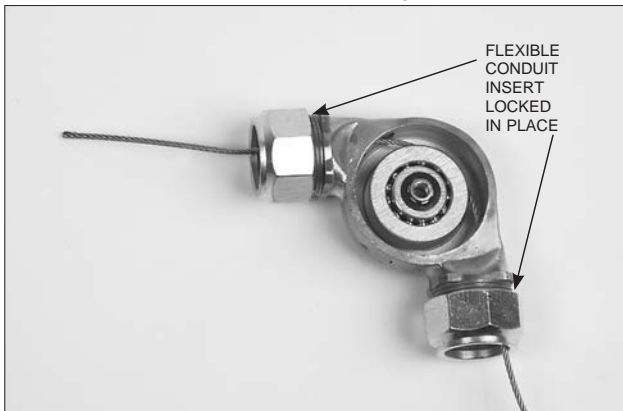

FIGURE 5-64
3. Tighten the nut to the connector conduit body, locking the flexible conduit insert in place. See Figure 5-64.